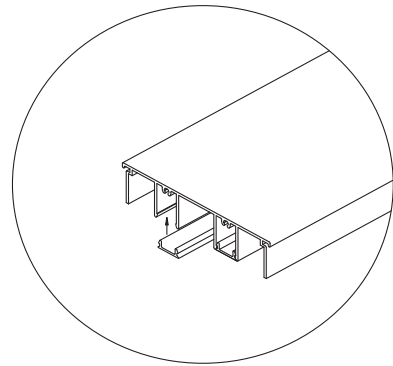

Figure 7
11. Next install the main frame head screw covers. Snap the screw cover in on one side then slide the cover over until it is past the jamb fins, do the same with the other side. The material may need to be arched to get it in tight. (See Figure 7)